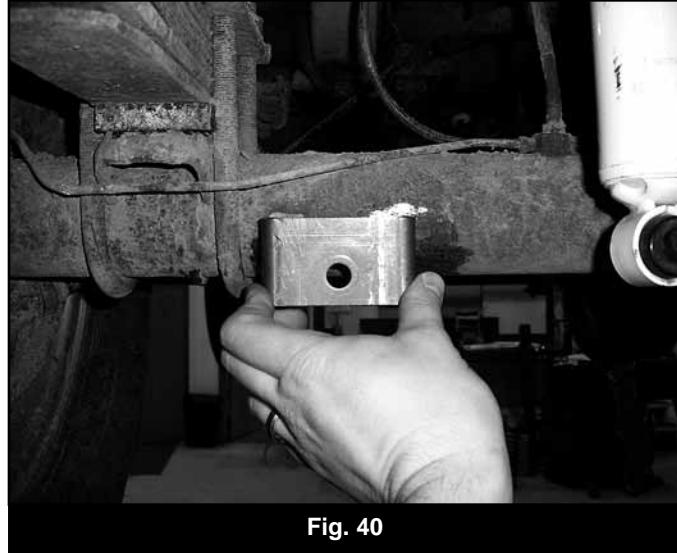

Fig. 40
- Locate the new lower shock mount brackets (01475). The new mounts should be positioned on the lower half of the axle just inside of the leaf spring u-bolt (Fig 40). Leave enough room between the u-bolt and the bracket to weld (about 1/2" - 3/4"). Note: The driver's side mounts to the back side of the axle and the passenger's side to the front.